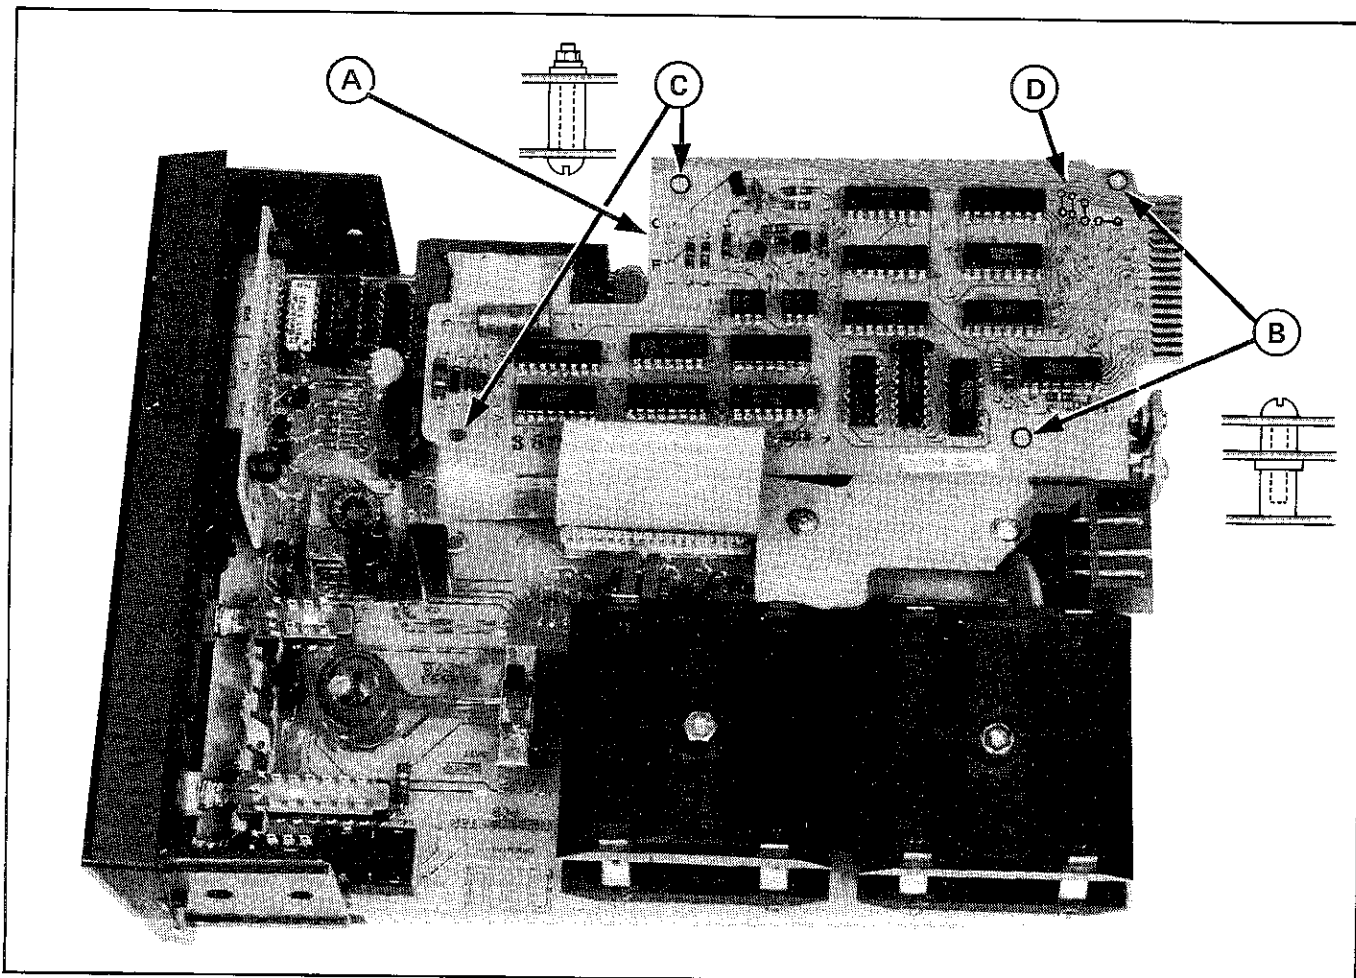

Figure 602-2
- c. Refer to Figure 602-2, location B and remove the two screws indicated, from the thermometer pcb.
- d. Position the Digital Output Unit over the thermometer pcb as shown in Figure 602-2 and carefully plug the Digital Output Unit's flex cable into the connector provided on the thermometer pcb assembly.
- e. Using the hardware supplied with the Digital Output Unit (screws, stand-offs, nuts, and washers) mount the Digital Output Unit pcb to the thermometer pcb. Hardware installation details are shown in Figure 602-2 locations B and C.
- f. Check the Digital Output Unit pcb to ensure there is no jumper installed at location A as shown in Figure 602-2. Remove any jumper that may be present.
- g. Refer to location D in Figure 602-2 and check the Digital Output Unit pcb to see if four jumper wires are installed. They must be installed if the pcb is being used in a Model 2170A, 2175A or 2176A, and must be removed if the pcb is being used in a Model 2160A, 2165A, 2166A or 2168A. (See paragraph 602-18)